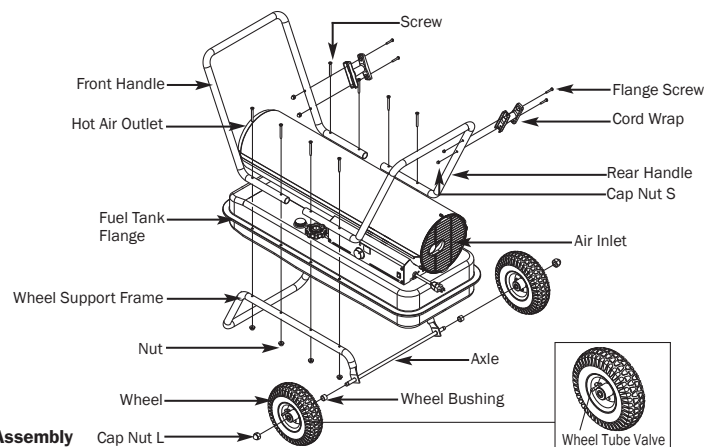

Figure 5 - Assembly
NOTE : When installing wheels, tube valve should face out from support frame (Figure 5).
4. Place heater on wheel support frame. Make sure the air inlet end (rear) of heater is over wheels. Align the holes on fuel tank flange. Insert screws through handles (front and rear), fuel tank flange, and wheel support frame as shown in Figure 5 and attach nut finger tight after each screw is inserted.
7. Insert screws through cord wrap, handles as shown in Figure 5 and attach nut finger tight after each screw is inserted.